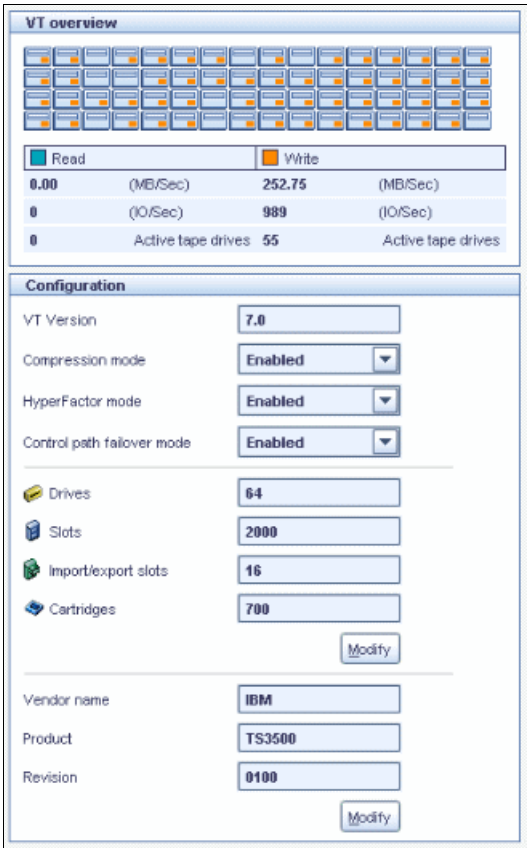

Figure 4-14 Logical tape library details and dimensions
21.To the right of the General tab is a representation of the drives, online throughput statistics, and the dimensions of the selected VTL (Figure 4-14).